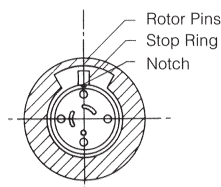

Fig. 10. Correct position of rotor seal (slots face the stator).
- Line up the rotor seal as shown in Figure 10. The rotor seal slots face the stator.